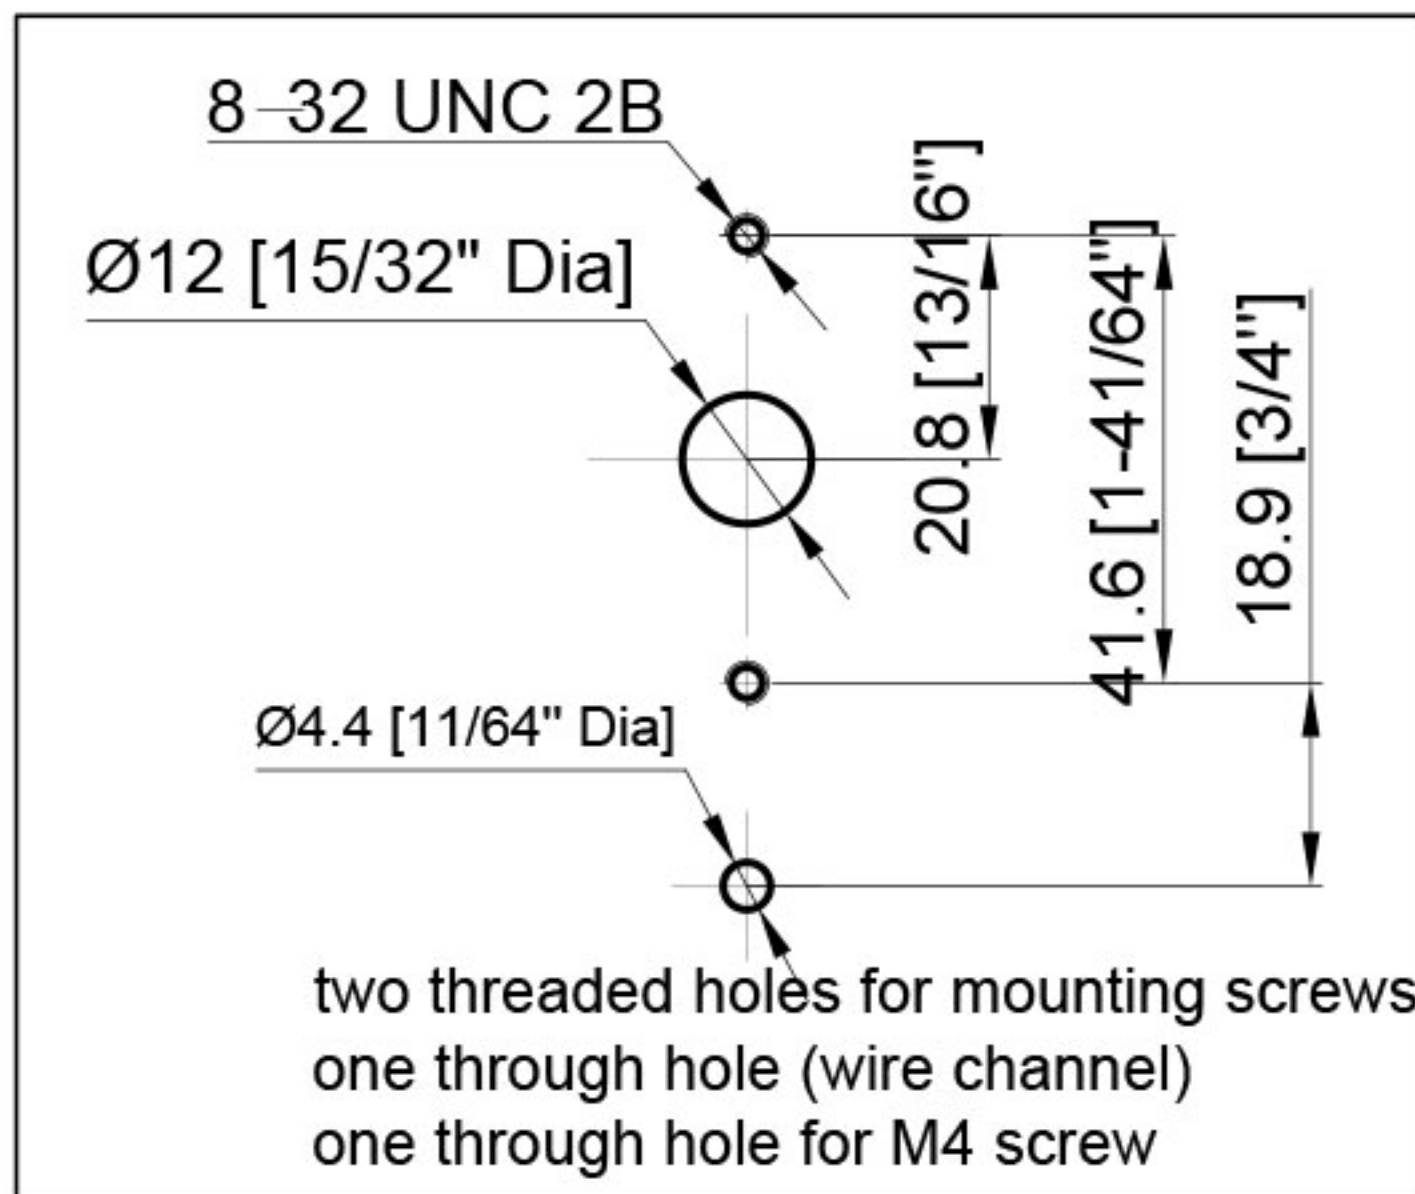

Fig. 2
1. Drill and tap two mounting holes for two US 8-32 screws, one wire channel and one hole for one M4 screw on the safe front door or plate . Make sure four holes' center should be in one vertical line.(Fig. 2)